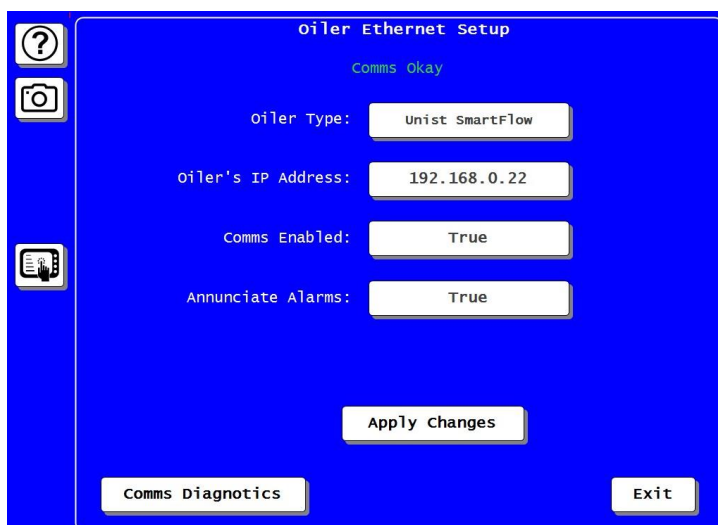

Figure 11. Oiler Ethernet Setup Menu Showing “Comms Okay”.
7. Select the “Comms Enabled” button and toggle it to TRUE as shown in Figure 11.
9. Once the Oiler setup is complete and you exit the setup screen to the Main initialization menu then select the “OILER CONTROL” button again, the Oiler Ethernet Setup Menu displays the message “Comms Okay” as shown in Figure 11.